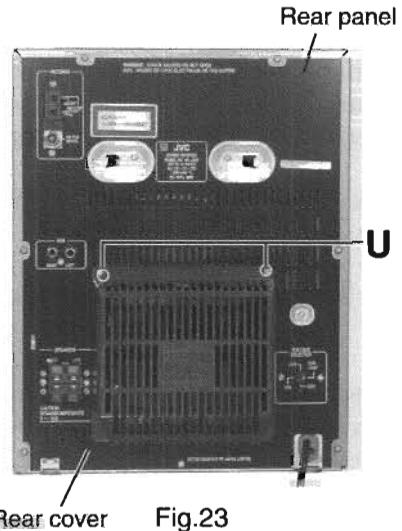

Fig.23
■ Removing the rear cover / rear panel (See Fig.23 to 26)